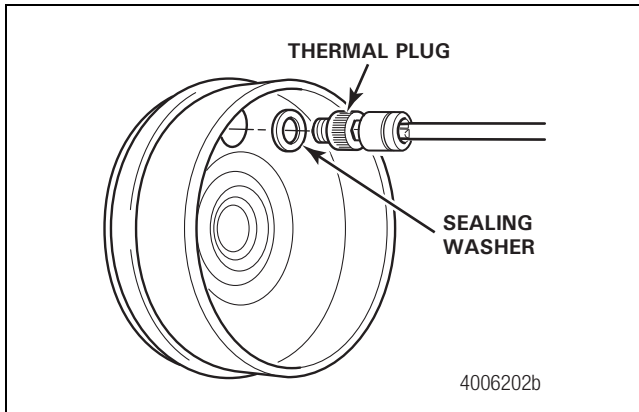

Figure 5.16
1. Remove the activated heat-sensing thermal screw using a 5/32-inch (4 mm) Allen key. Figure 5.16.